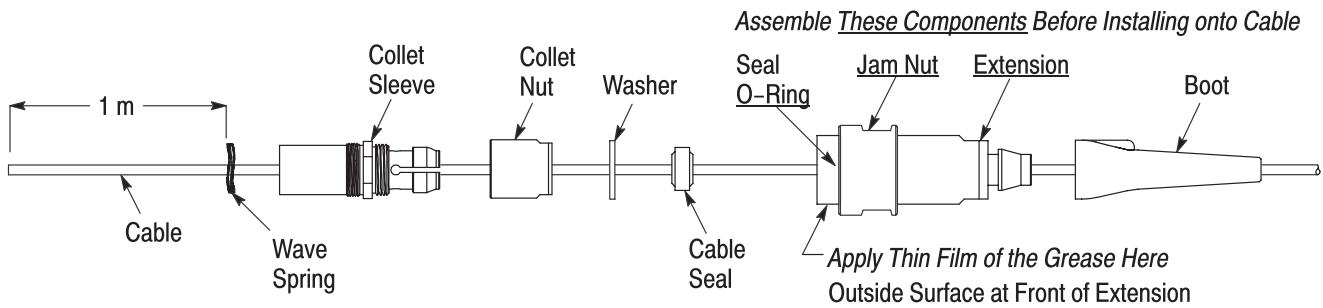

Figure 2
1. Thread the jam nut onto the front of the extension until it stops. **DO NOT** force the jam nut past this point. Refer to Figure 2.
2. Slide the seal O-ring onto the front of the extension and into the groove in the jam nut. Apply a *thin film* of the grease around the outside edge at the front of the extension. Refer to Figure 2.
3. Slide the components shown in Figure 2 onto the cable allowing 1 m at the end of the cable for stripping the cable. Make sure to orient each component as shown.